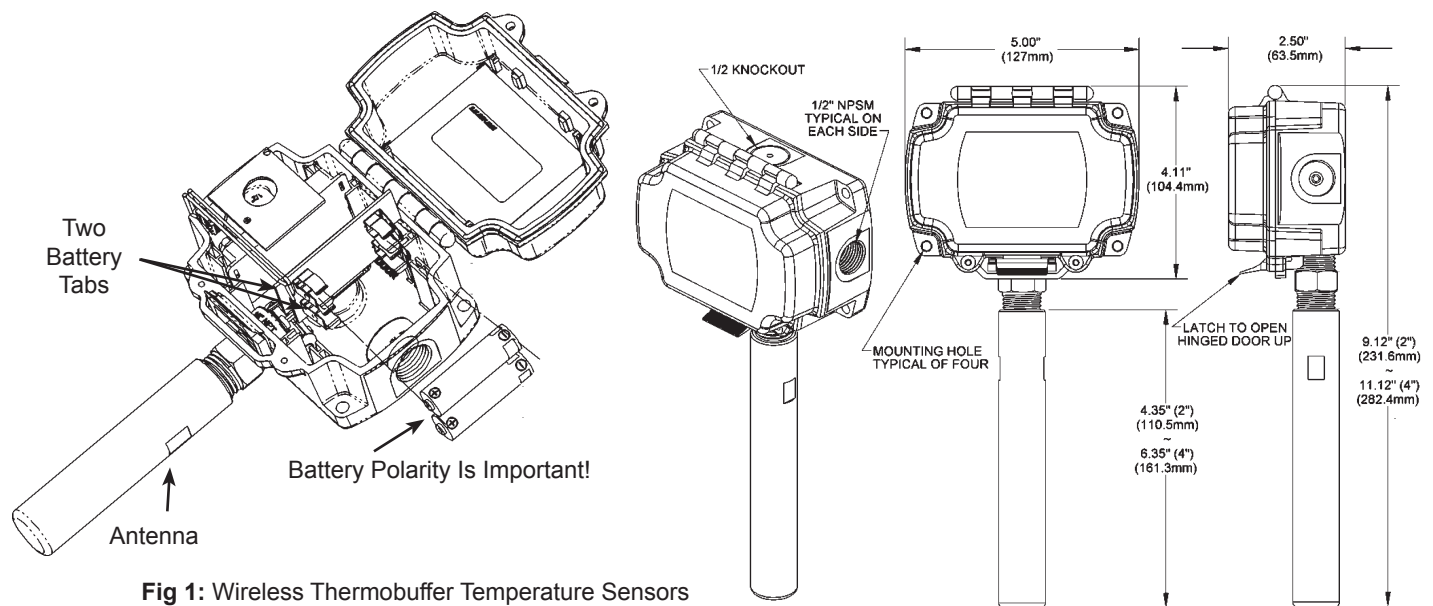

Fig 1: Wireless Thermobuffer Temperature Sensors
4. Open the cover of the transmitter and remove battery tabs or install the batteries, observe polarity (Figure 1). The transmitter LED, next to the Transmitter Training Button in Figure 4, should flash approximately once every 20 seconds. (The flash is very quick.)